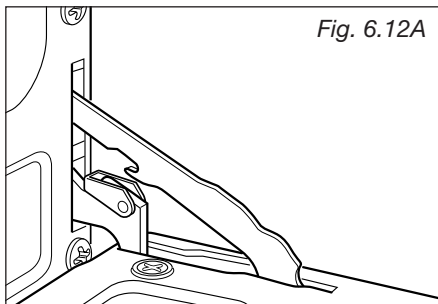

Fig. 6.12A
- Open the door to the full extent (fig. 6.12A).